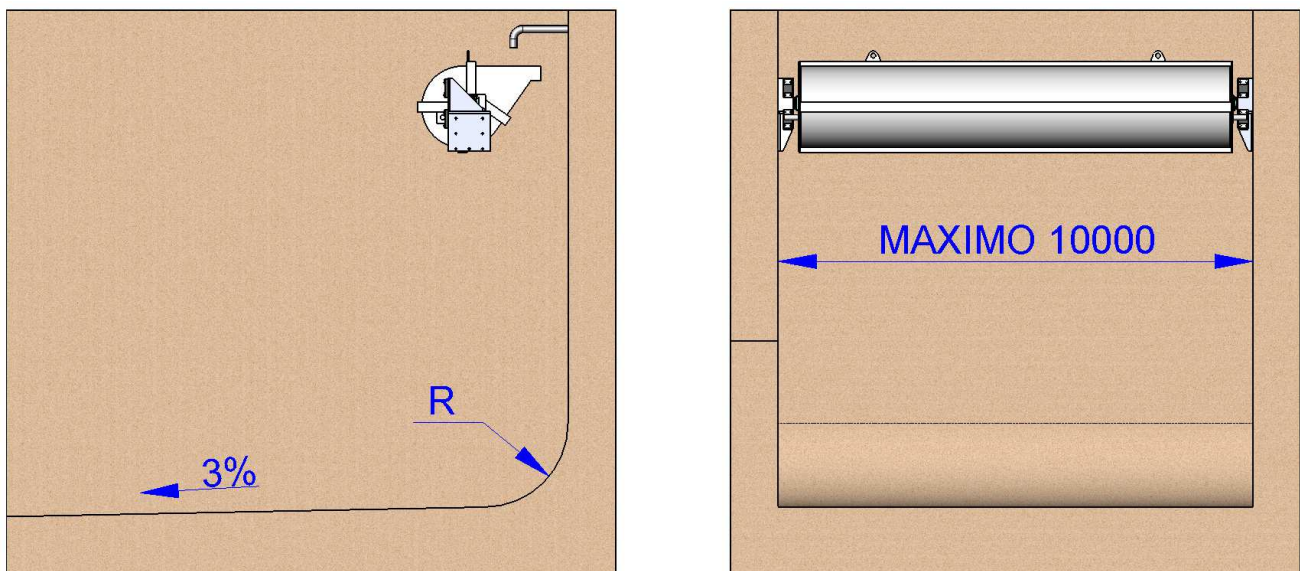

fig. 5
- The cradle underneath the cleaner will have a considerable ratio (level "R" in fig. 5), in order to reduce any losses produced through shock as the water comes into contact with the concrete.
- The cleaning channels must have a slope of 3% (fig. 5).